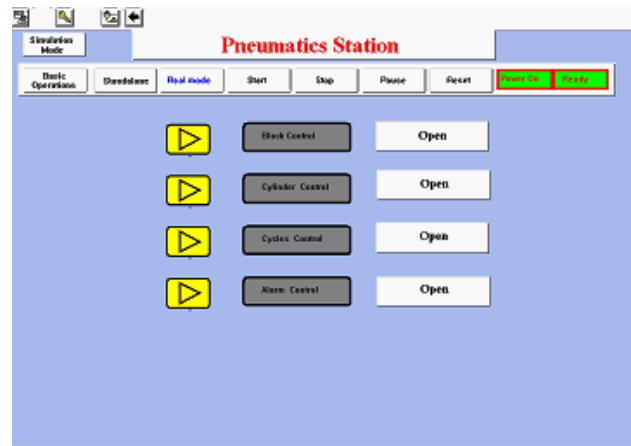

Figure 160: Pneumatics Station
8. Click **Restart**. Pneumatics Station window (shown in Figure 160: Pneumatics Station) is displayed in the background. Click **Close** to close the Vuniq Application Manager window.